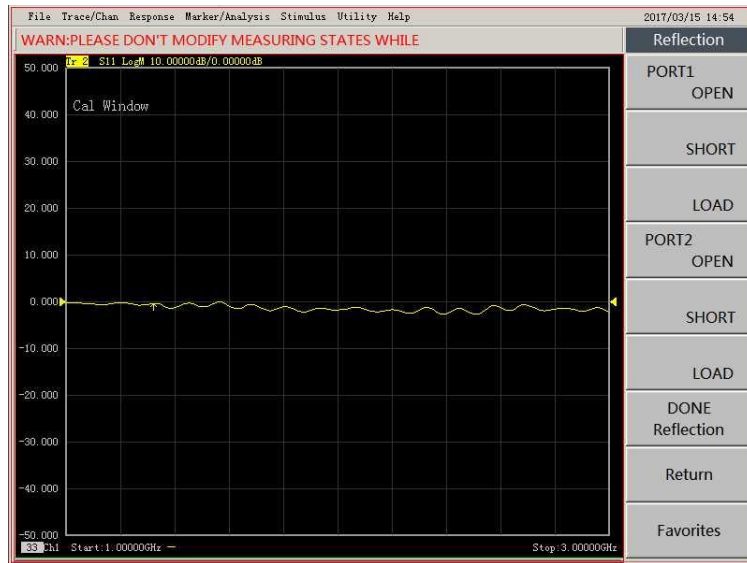

Figure 3-6 Solt 2-Port Reflection calibration
- Connect Port 1 and Port 2 of the analyzer respectively with N-3.5mm cable. Connect 3.5mm female OPEN standard to the other end of the cable connected to the PORT 1. Press [**PORT1 OPEN**] and start to calibrate as shown in Figure 3-6. PORT1 open calibration is completed when menu item turns to be [**PORT1 OPEN**]. In the same way, complete calibrations separately by connecting cable of Port 1 with female SHORT/LOAD standards.
- Connect cable of Port 2 of the analyzer with female OPEN calibration kit. Press [**PORT2 OPEN**] and start to calibrate as shown in Figure 3-6. PORT2 open calibration is completed when menu items turn to be [**PORT2 OPEN**]. Take the same steps and complete calibration separately by connecting cable with female SHORT calibration kit and female LOAD calibration kit. The soft key menu status after reflection calibrations of two ports are completed is as shown in the following picture. Press [**DONE Reflection**].